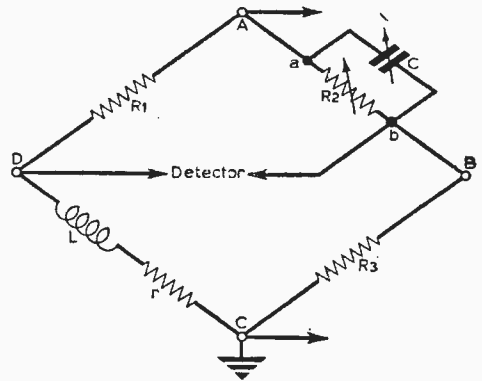

Fig. 4—The basic arrangement of the circuit of Fig. 3.
- (2) All components should be connected directly to these points *only*, for reasons which will be given.
- (3) Only one earth must be used, preferably applied at C, for if another earth were applied at say, the oscillator end of the earthy supply line, a loop would be formed, which could give rise to hum and other more insidious troubles.
The reason why (2) is important will be clear if we consider a bridge wired up as in Fig. 4.